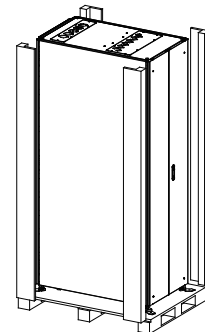

Fig. 2-3
- 3.Remove the foam and plastic bag around the unit(Fig.2-3);